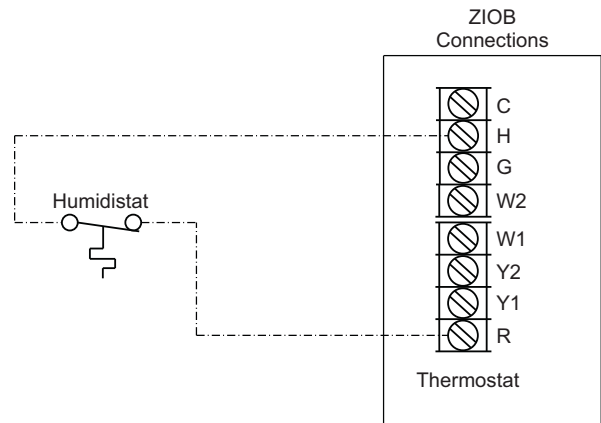

Fig. 44 — Humidistat Connections to ZIOB
3. Connect one of the leads from the 2-conductor cable to H terminal (TB1) on the ZIOB (SmartVu Control Board). Connect the other lead to the R terminal (TB1) on the ZIOB. See Fig. 44.